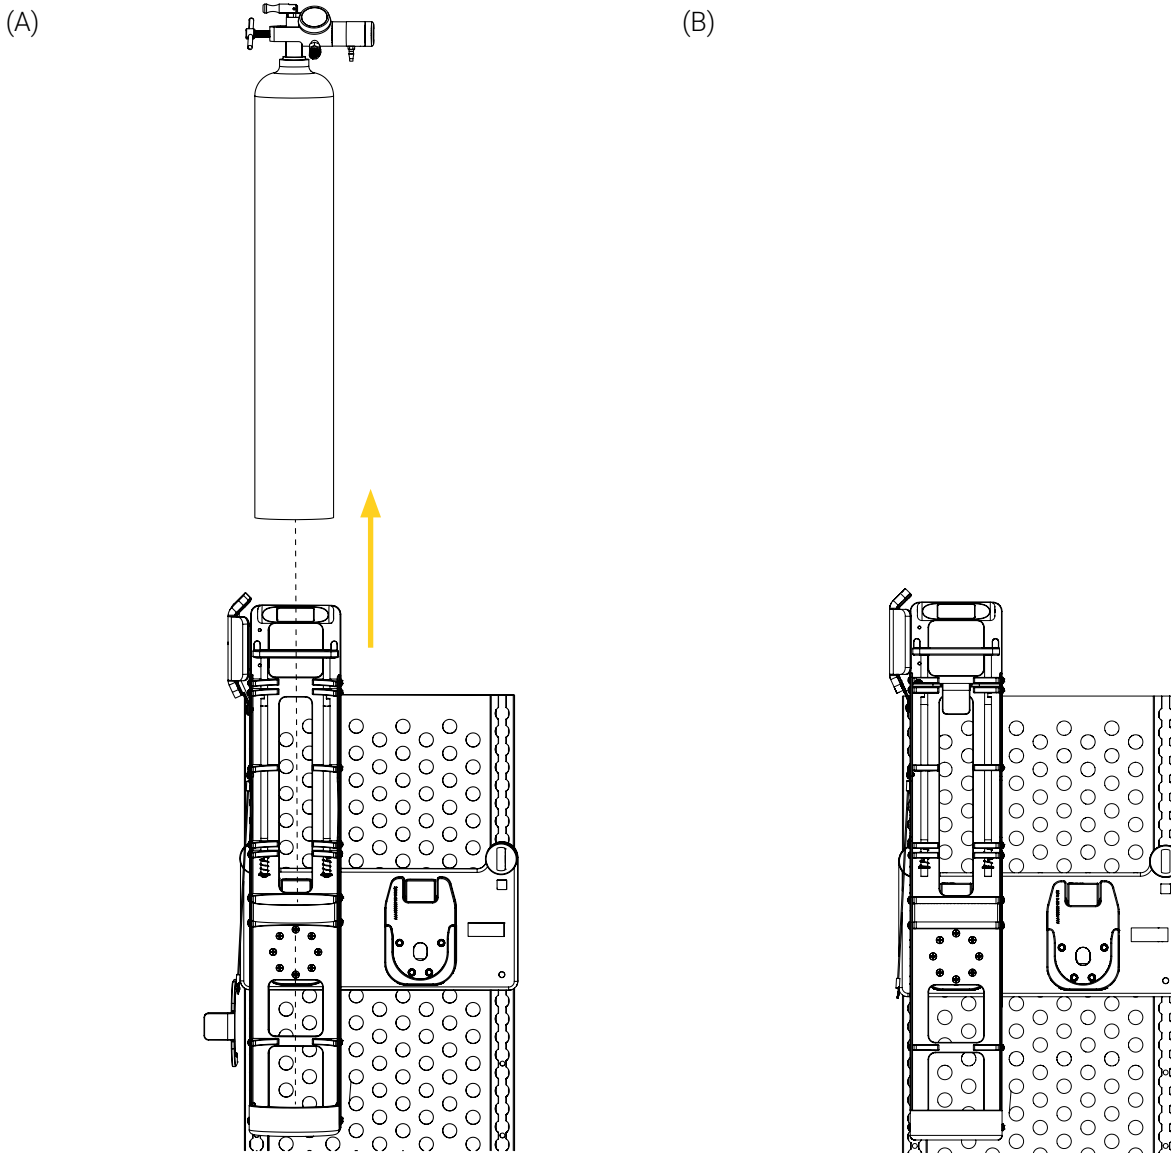

Figure 11: Removing the gas cylinder
4. Pull the gas cylinder vertically out of the gas cylinder holder (Figure 11).